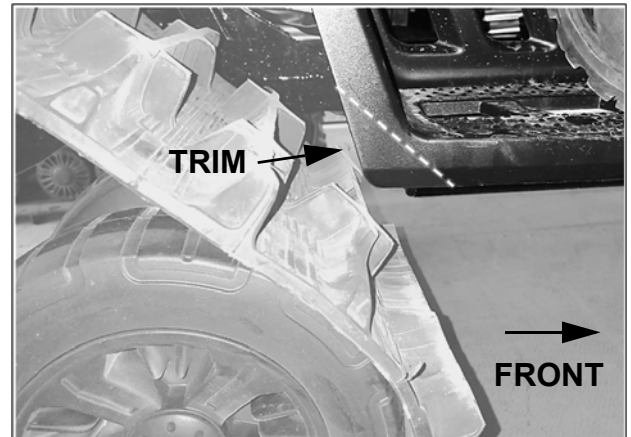

Fig. 29
3. The avoid contact between rear track systems and the vehicle, trim rear corners of footrests. See Fig. 29